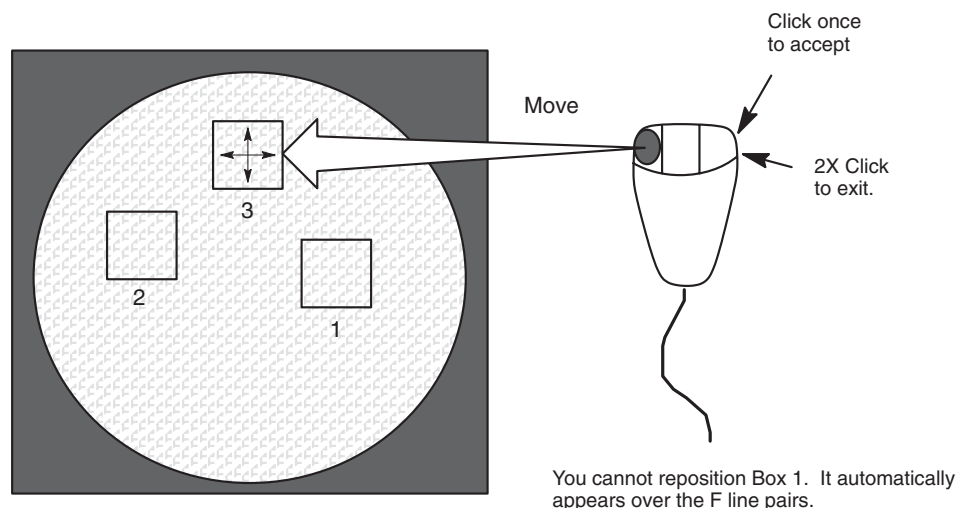

Figure 2-7 Reposition ROI with Mouse
- 4.) Refer to Figure 2-7. To position the ROI box, and analyze: